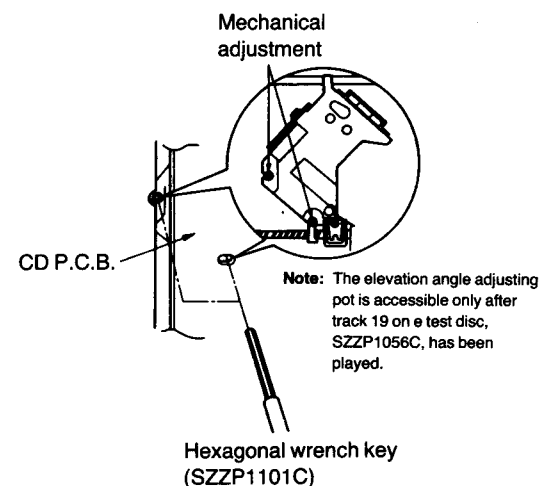

Fig. 7
4. Alternately adjust the two mechanical adjusting screws with the 2.0 mm allen wrench (SZZP1101C) until the RF signal amplitude on the oscilloscope is maximized. (Shown in Fig. 7)